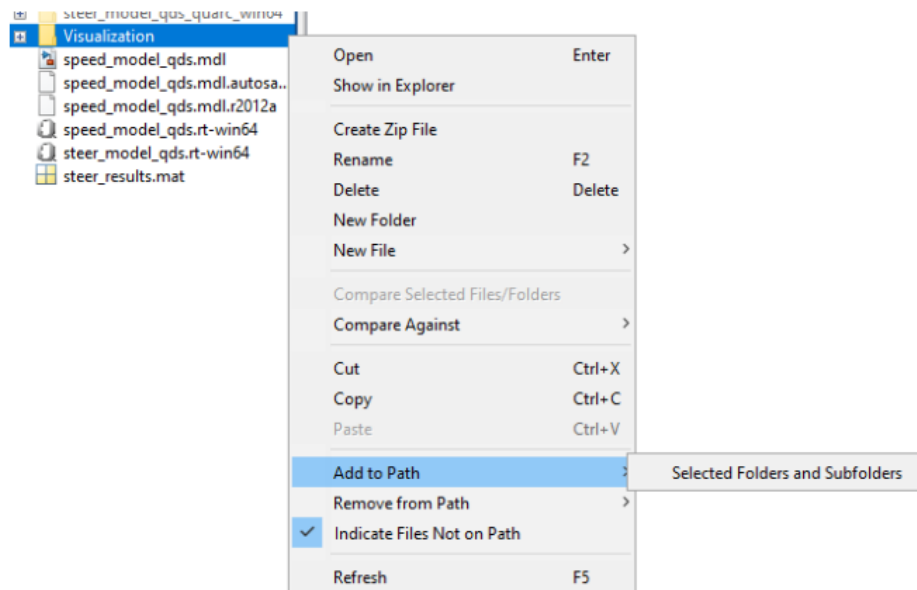

Figure 10: Select Folder and Subfolders
2. Click right on the visualization folder and add it to the path by selecting “Selected Folders and Subfolders” as shown in Figure 10.